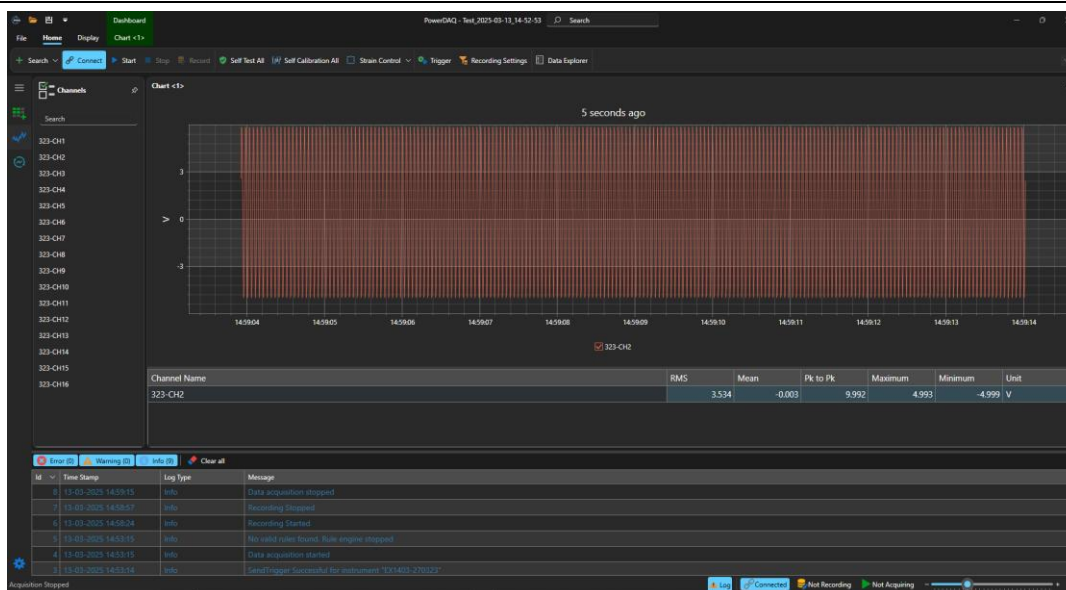

Figure 31. Data Explorer Button
3. View the recorded data by clicking the **Data Explorer** option on the Dashboard. Refer to Figure 31.